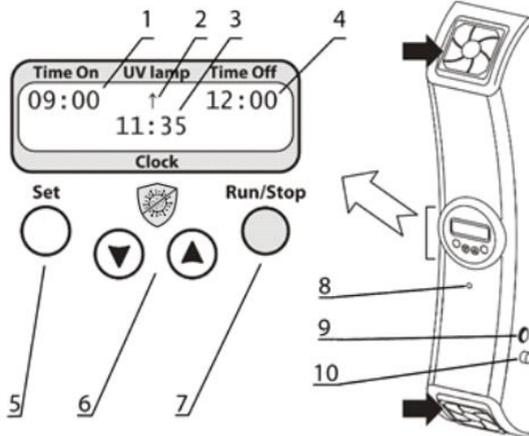

Figure 5. UVR-Mi control panel and overview
5.2.1 Plug the power cord to a grounded mains socket. Switch on the power switch (fig. 5/9) on the side to the right.
- Air flow recirculation start time in the automatic mode - Time On (fig. 5/1);
- Air flow recirculation end time in the automatic mode - Time Off (fig. 5/4);
- UV-recirculator operating indicator - UV lamp (fig. 5/2);
- Real time clock (fig. 5/3).
5.2.3 **Parameter setting.** Hold the **Set** key (fig. 5/5) pressed for more than 6 seconds to activate parameter setting mode.
5.2.3.1 Change the currently flashing parameter using the ▼ and ▲ keys (fig. 5/6). Pressing the key down longer than 2 seconds makes the values change quicker.
5.2.4.1 **Manual mode.** Press the **Run/Stop** key (fig. 5/7) to start or stop recirculation. While recirculator is working, symbol “↑” indication is shown on the display (fig. 5/2).
5.2.4.2 **Automatic mode.** Set recirculation start (**Time On**, fig. 5/1) and end (**Time Off**, fig. 5/4) times, as described in 5.2.3. Unit saves the parameters after unplugging. On set start time, a powered unit starts recirculator, if it was not started already. On reaching the end time, unit turns off the recirculator.
- 5.2.7 **End of lamp lifetime and lamp failure.** At the end of lamp lifetime (9000 h) or in case of UV lamp failure, unit terminates operation and does not resume until lamps are replaced. Display shows “END OF UV LAMP LIFETIME” or “ERROR UV LAMP FAILURE” messages, respectively. Additionally, check the indicator (fig. 5/8) to see if the lamps are working. To replace the lamps, see **8.3**.